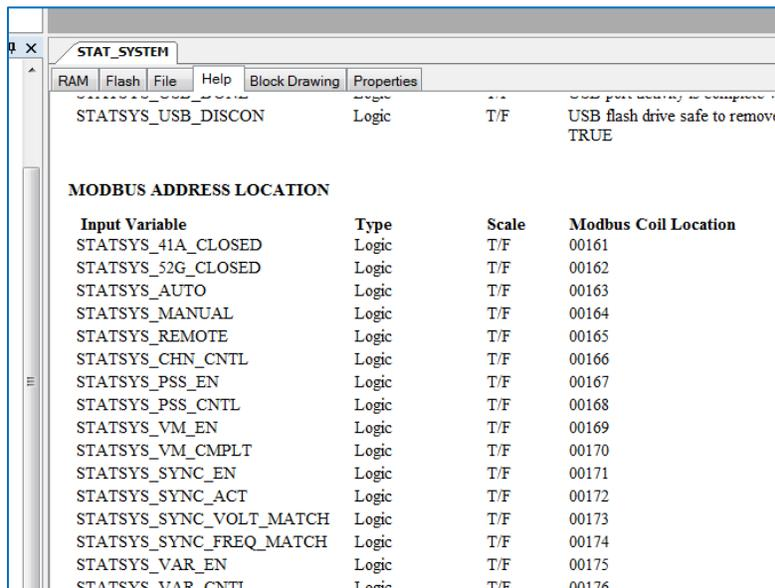

Figure 12. Coil Number Information Example
Coil and register numbers are shown in the individual block help file. With the block open in the Settings Explorer window, click the Help tab. Each variable is listed along with the Modbus address, data type, and scale. Most registers are in per-unit (PU) scale. An example of coil number information is illustrated in Figure 12 and an example of register number information is illustrated in Figure 13.